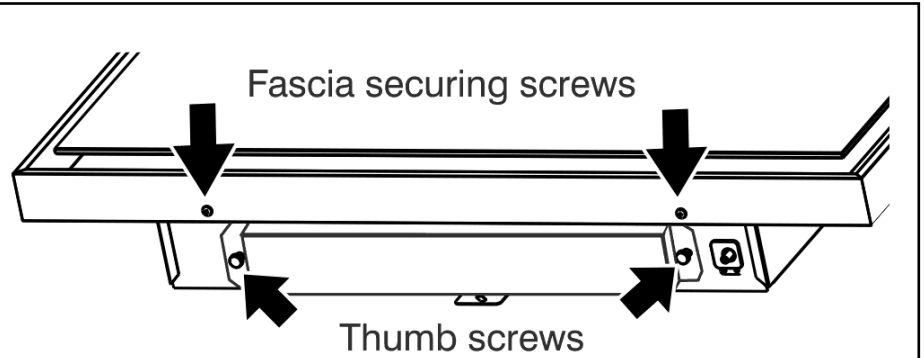

Figure 3. Underside of heater (Shown with Glamour fascia)
- On the base of the heater are two thumbscrews (See figure 3). Unscrew and remove the thumbscrews and light baffle.
- The fascia is secured using the two M5 x 25mm screws with bright metal finish. These are located as in figure 3.
- At the base of the heater are two thumb screws (See figure 3) that secure the light baffle. To gain access to the lamps unscrew the thumb screws and remove the light baffle.